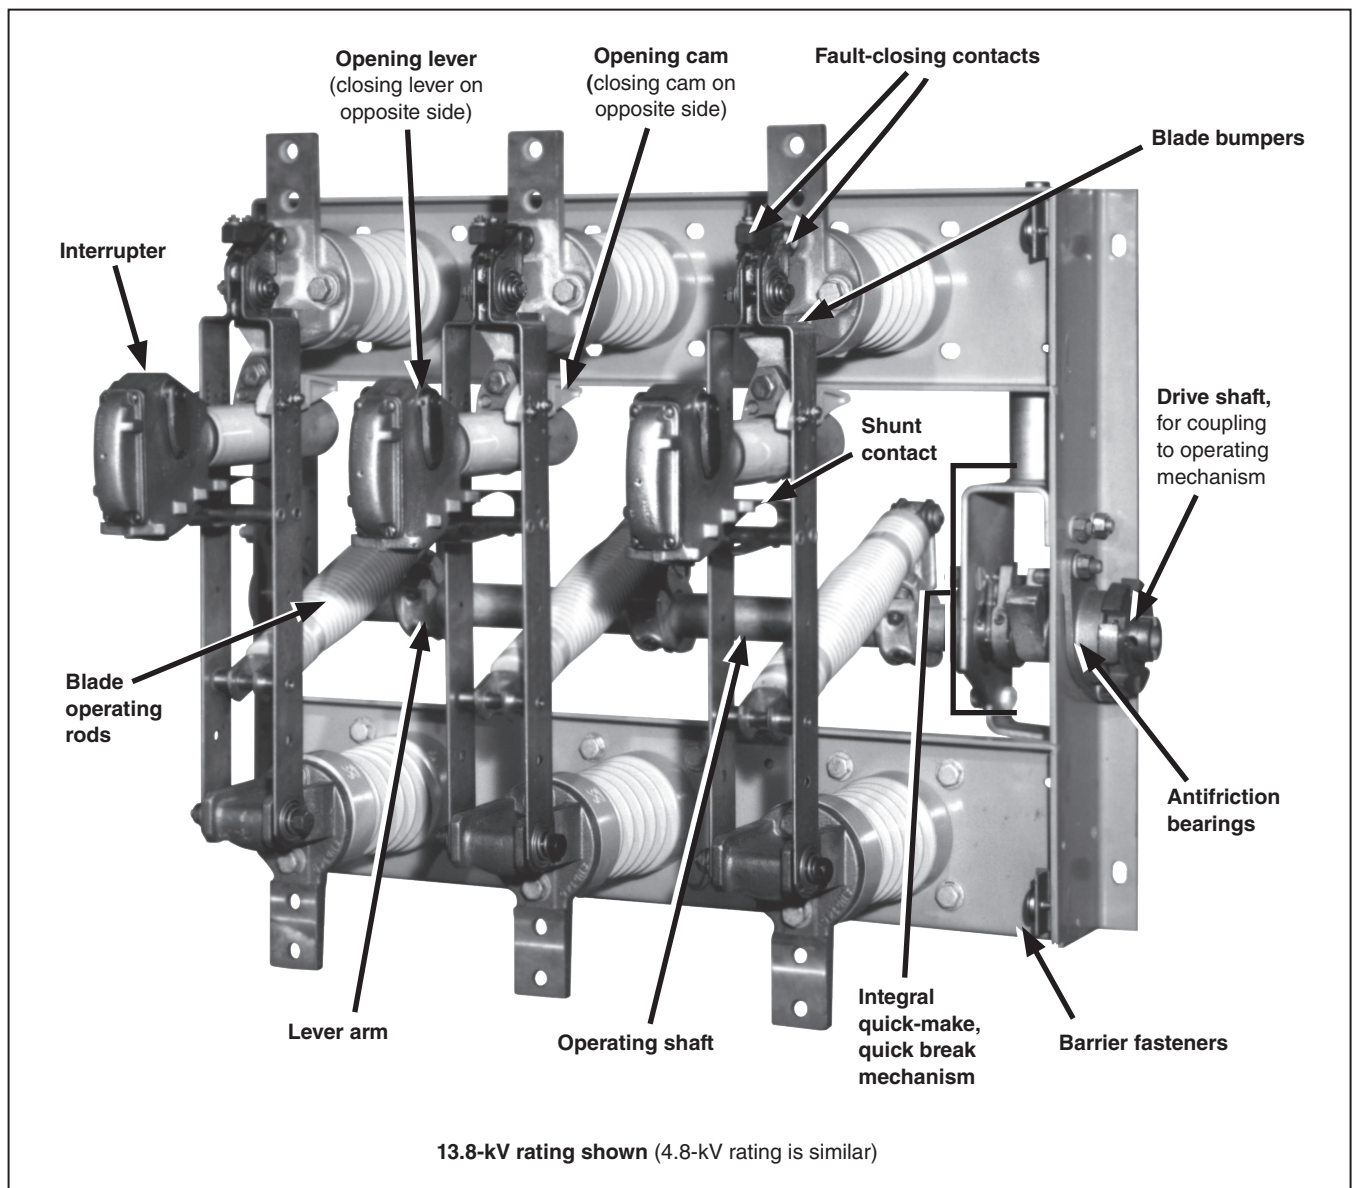
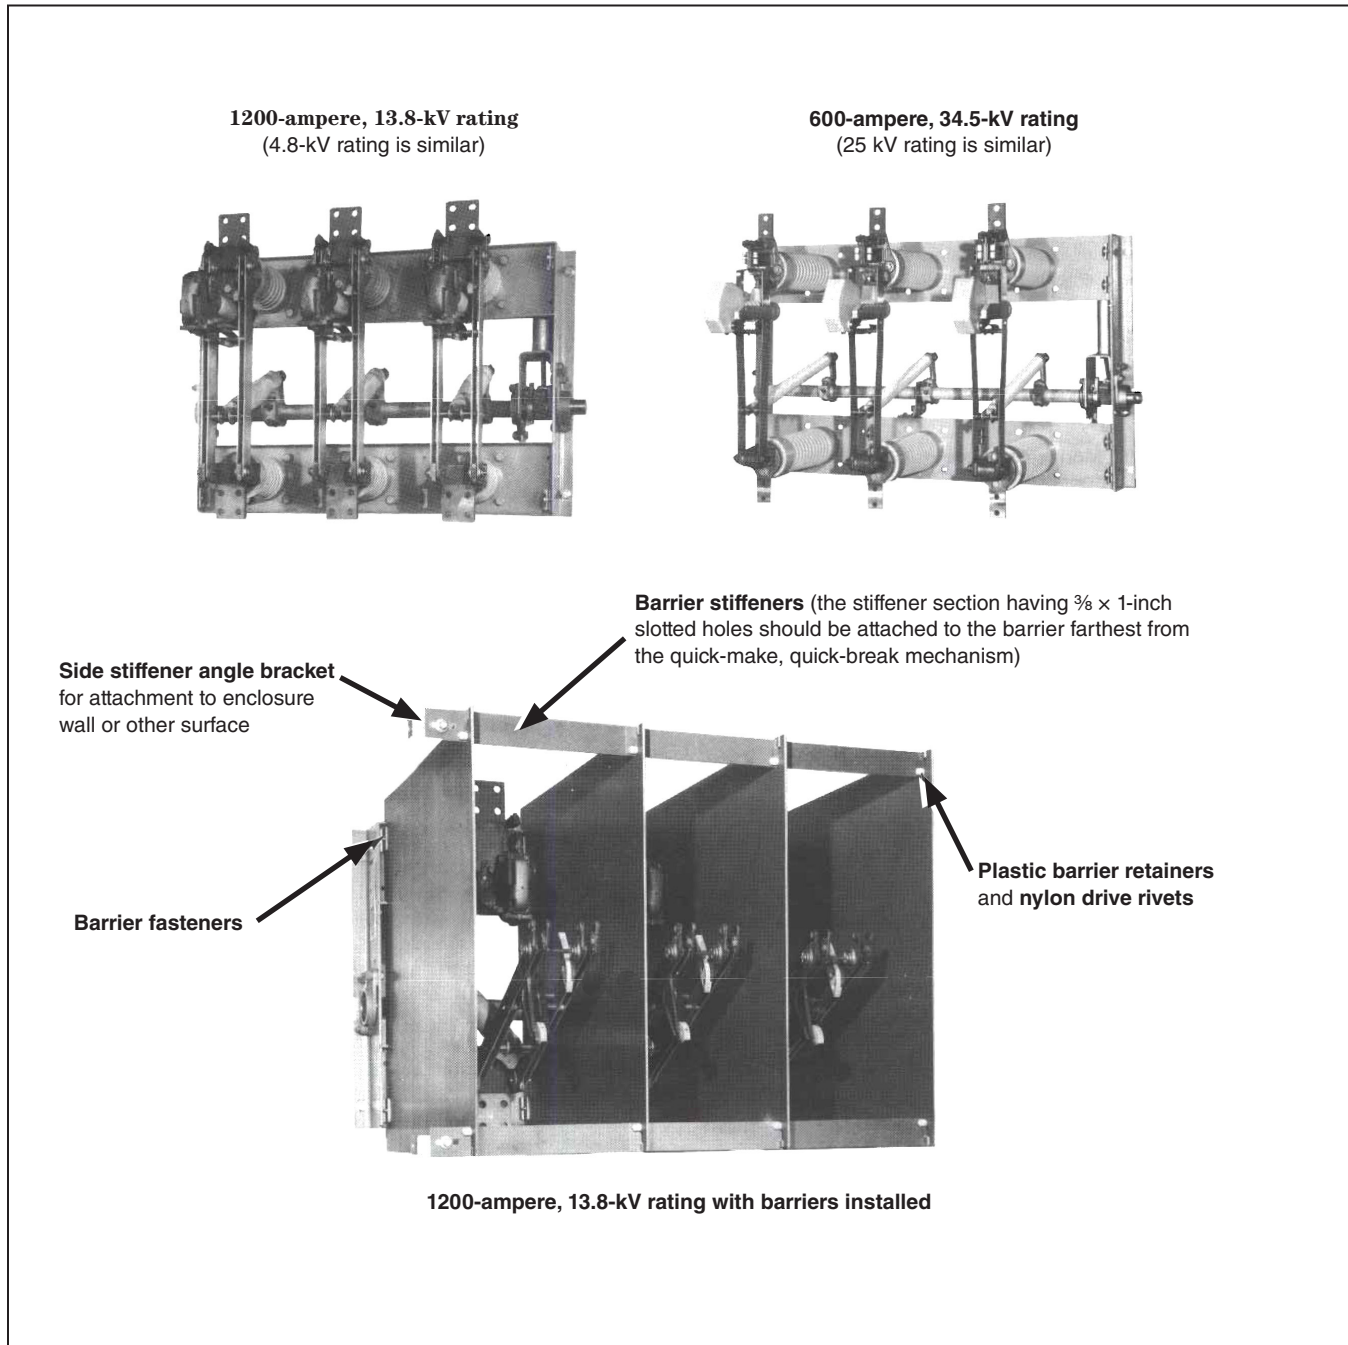
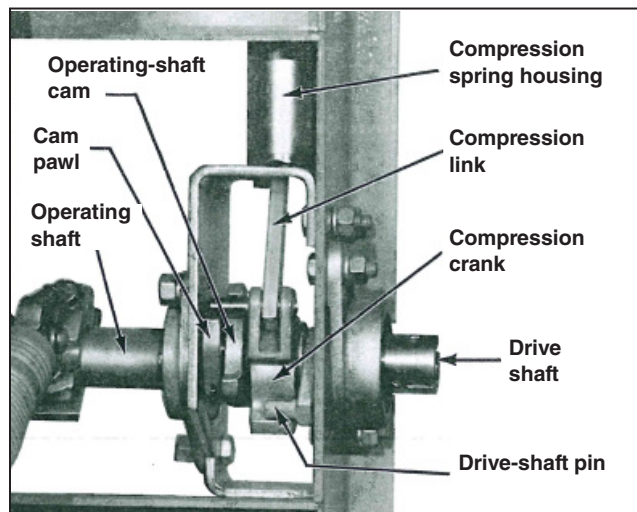

Figure 1. A typical 600-ampere Alduti-Rupter Switch, for indoor distribution.
Figure 2. A typical 1200-ampere and 600-ampere Alduti-Rupter Switches with and without barriers.
Figure 4. A quick-make, quick-break mechanism in the Switch Open position.
Become familiar with the parts of an Alduti-Rupter Switch, as shown in Figure 1 and Figure 2 on page 8.
STEP 7. With the handle in the **Closed** (latched) position, adjust the turnbuckles so the switch drive-shaft pin applies pressure against the compression crank. See Figure 1 on page 7 and Figure 4 for identification. Carefully tighten the appropriate turnbuckle until there is a slight drag on the handle latch (the latch should then release freely when the handle is pushed in the closing direction). Then, tighten the turnbuckle locknuts.
Check for blade alignment by releasing the spring-loaded cam pawl on the quick-make, quick-break mechanism (see Figure 4) and by moving the blades by hand only, toward the **Closed** position. Avoid side thrust. Blade movement will be delayed, by toggle-spring compression, just before the blades reach the interrupters. Visually check each pole to see that the blades could pass the interrupter with
(a) Refer to the erection drawing and to S&C Drawing RD-3299 that accompanies it for specific barrier component locations. See also Figure 2 on page 8.
Check for blade alignment by releasing the spring-loaded cam pawl on the quick-make, quick-break mechanism (see Figure 4 on page 11) and by moving the blades by hand only, toward the **Closed** position. Avoid side thrust. Blade movement will be delayed, by toggle-spring compression, just before the blades reach the interrupters. Visually check each pole to ensure the blades could pass the interrupter with equal clearance on each side and the interrupter itself is parallel to the blades.
STEP 9. Close the switch and verify the switch drive-shaft pin applies pressure against the compression crank. See Figure 4 on page 11. If more handle travel in the closing direction is required, proceed as follows: